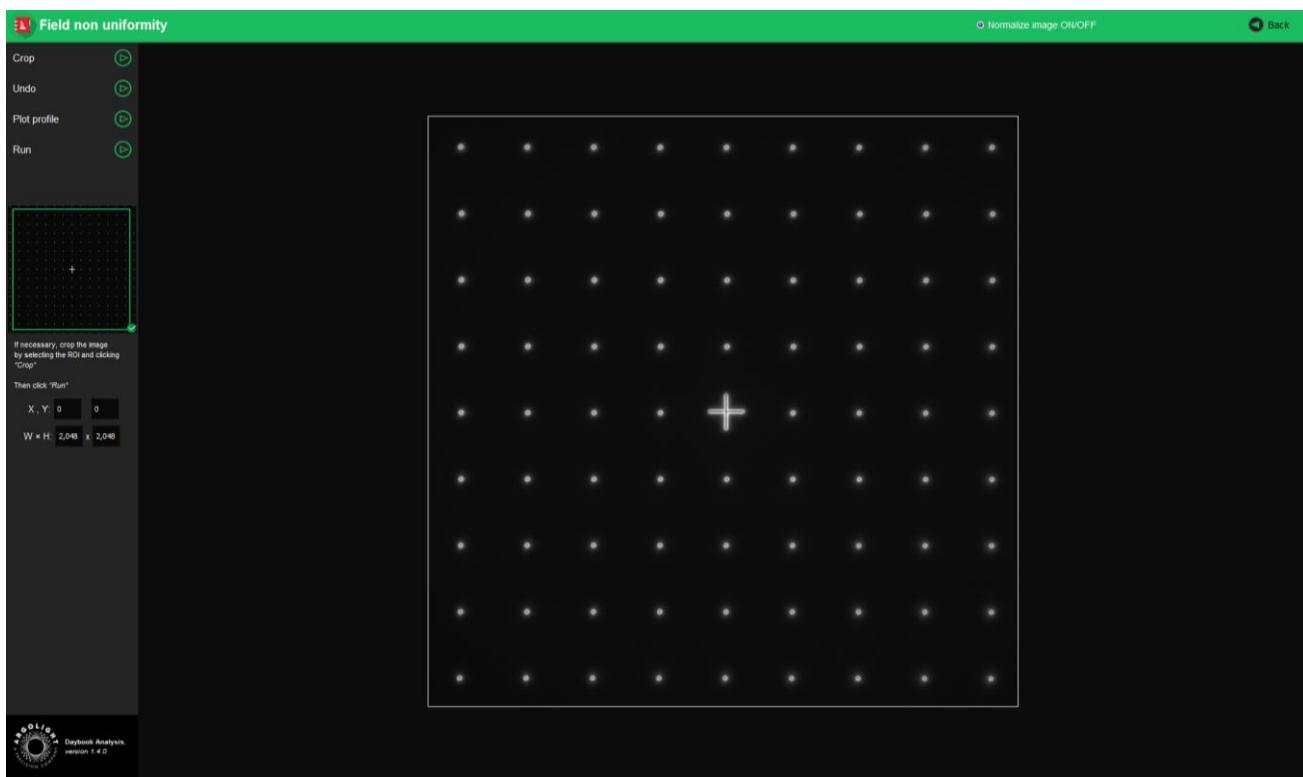

Figure 2: Crop window.
- e) By default, if one of the rows (or columns) of rings is incomplete or cropped, it will be discarded from the analysis. If needed, select a region of interest (ROI) and click on “Crop” to crop the image (*cf. Figure 2*).